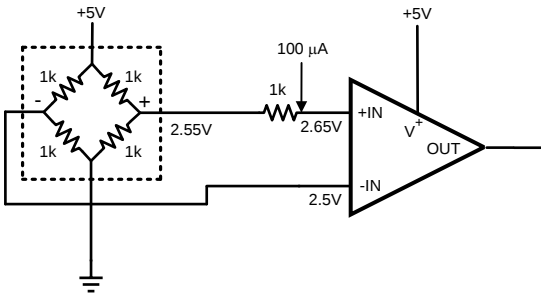
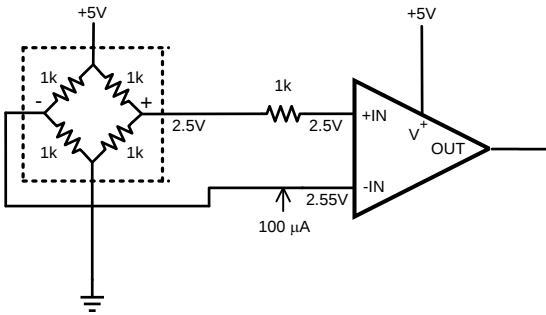

Figure 59. Degraded Input Line, Step 1
Figure 60. Degraded Input Line, Step 2
Figure 59 shows an example of a degraded connection between the bridge and the +IN pin of the LMP8358. This fault is shown by the 1 kΩ resistor placed between the bridge and the LMP8358. To detect this fault use the 1/50 feature by setting MUX[1:0] to 10b to test the +IN pin, POL to 0b, and G[2:0] to 010b for a gain of 50. This will give an overall gain of 1. Set CUR[2:0] = 101b to inject a 100μA current and read the output voltage (5082x). Next set MUX[1:0] to 11b and PIN to 1b to test the –IN pin as shown in Figure 60 and read the output (58C2x). If the voltages of these two measurements are different a degraded input fault exists.
* The values shown for a degraded input line will vary depending on the resistance in the line. This table uses the value in Figure 59 and Figure 60, 1kΩ.